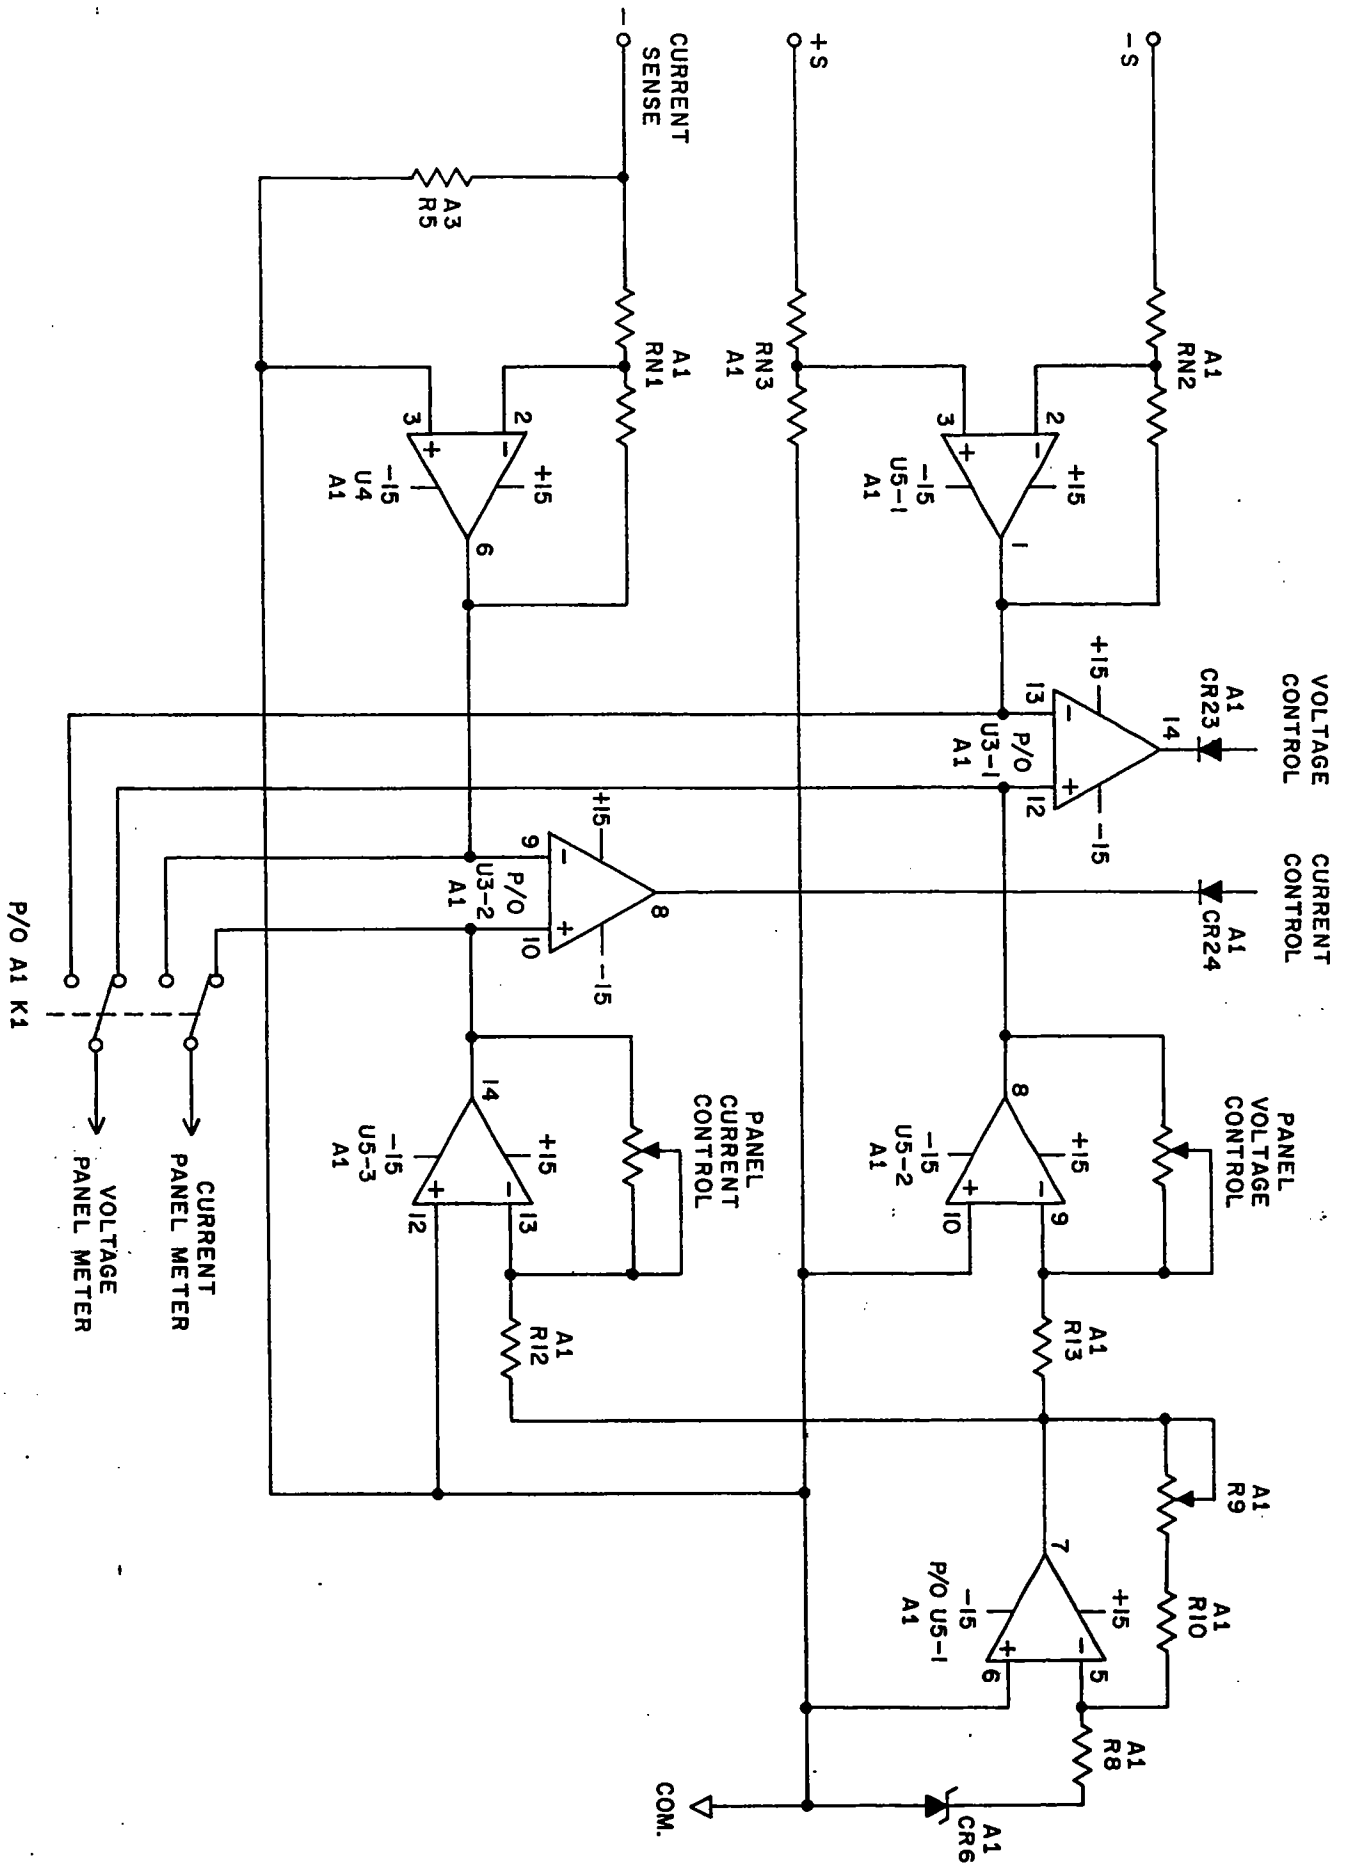

FIG. 3-1 SIMPLIFIED SCHEMATIC, VOLTAGE AND CURRENT CONTROL.
- 3-2** The following paragraph basically describes circuit operation. Refer to the simplified schematic, Figure 3-1 and the main schematic, Figure 5-1.
- 3-8 REFERENCE VOLTAGE:** Refer to Figure 3-1. All models of the series use zener A1CR6 as the standard voltage reference. This voltage is the input to op-amp A1U5-1 as shown. Potentiometer A1R9 is a feedback resistance that is set at the factory to calibrate the reference voltage for an individual unit. The output of A1U5-1 is a stable -10 Volts that will be proportioned to values that are used for the individual models of the MSK Series which have different output characteristics.